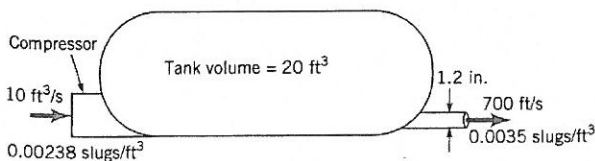

Figure P5.26
5.26 Air at standard conditions enters the compressor shown in Fig. P5.26 at a rate of $10 \text{ ft}^3/\text{s}$. It leaves the tank through a 1.2-in.-diameter pipe with a density of $0.0035 \text{ slugs/ft}^3$ and a uniform speed of 700 ft/s . (a) Determine the rate (slugs/s) at which the mass of air in the tank is increasing or decreasing. (b) Determine the average time rate of change of air density within the tank.